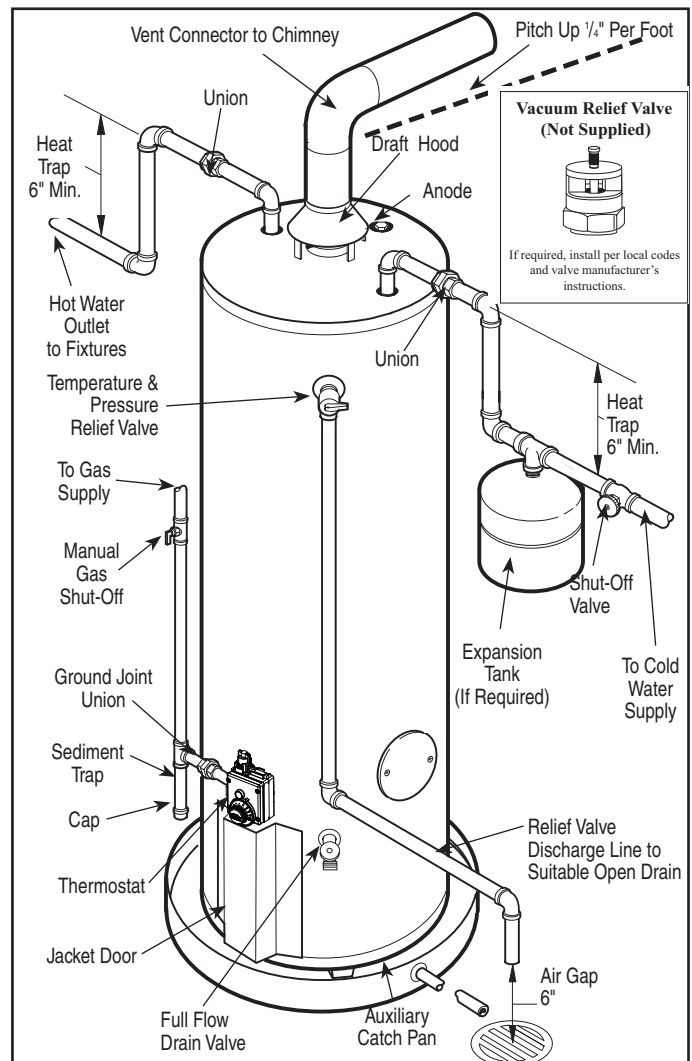

Figure 2 — Typical Installation
The suggested method of controlling thermal expansion is to install an expansion tank in the cold water line between the water heater and the check valve. (refer to Figure 2.) The expansion tank is designed with an air cushion built in that compresses as the system pressure increases, thereby relieving the over pressure condition and eliminating the repeated operation of the relief valve. Other methods of controlling thermal expansion are also available. Contact your installing contractor, water supplier, or plumbing inspector for additional information regarding this subject.
WATER SUPPLY CONNECTIONS— Refer to Fig. 2 for suggested typical installation. The installation of unions or flexible copper connectors is recommended on the HOT and COLD water lines, so that the water heater may be easily disconnected for servicing if necessary. The HOT and COLD water connections are clearly marked.
- 5. GAS SUPPLY**—The branch gas supply line to the water heater should be clean $\frac{1}{2}$ " black steel pipe or other approved gas piping material. A ground joint union or ANSI design certified semi-rigid or flexible gas appliance connector should be installed in gas line close to the water heater, and a manual gas shut-off valve should be installed in the gas line prior to the union. The manual gas shut-off valve should be readily accessible for turning on or off. A sediment trap should be installed at bottom of the gas line. (Refer to Fig. 2)
- 6. LEAK TESTING**—The water heater and its gas connections must be leak tested at normal operating pressures before it is placed in operation. Turn on the manual gas shut-off valve near the water heater (Refer to Fig.2). Use a soapy water solution to test for leaks at all connections and fittings. Bubbles indicate a gas leak that must be corrected. The factory connections to the thermostat should also be leak tested after the water heater is placed in operation.
The water heater must be isolated from the gas piping system by closing the manual gas shut-off valve (Refer to Fig. 2), during any pressure testing of the gas supply piping at pressures equal to or less than $\frac{1}{2}$ psi (14" W.C.).
- 7. VENTING**—This water heater must be installed with the factory supplied draft hood in place. (Refer to Fig. 2.) Vent connectors must be attached to the draft hood outlet to connect the water heater to the gas vent or chimney. The vent connectors must be the same size (diameter) as the draft hood outlet or larger, never smaller. For proper venting in certain installations, a larger vent connector size may be needed. Consult Vent Tables in Appendix "G" of the latest version of the National Fuel Gas Code or NFPA booklet Z22399-IN1 .